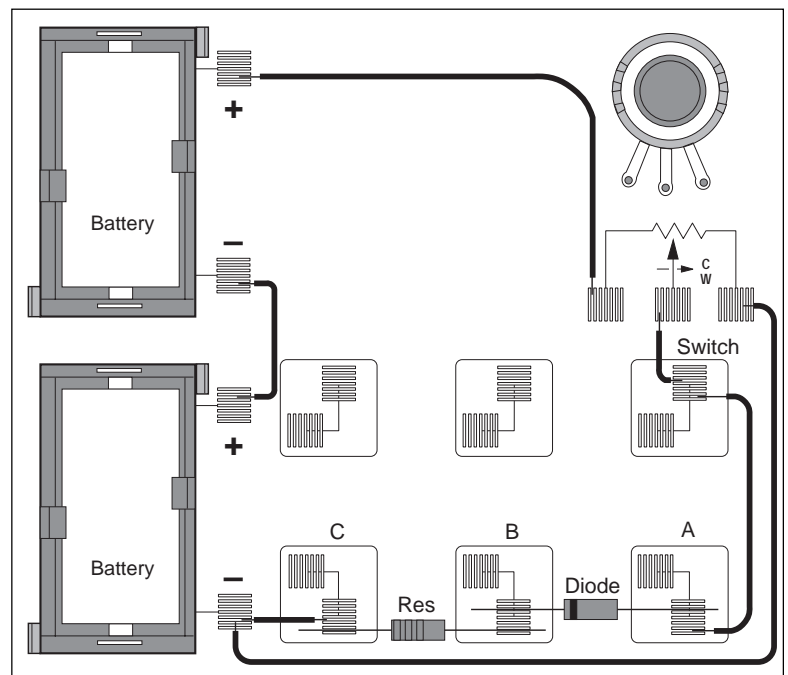
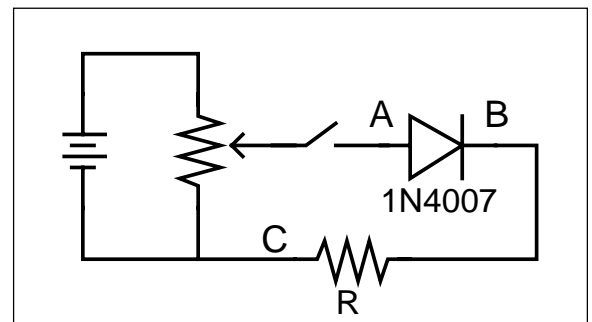

Figure 9.1a
Figure 9.1b
1. Connect the circuit shown in Figure 9.1a using the 1N4007 diode you've been supplied and the 1 K Ω resistor. Use Figure 9.1b as a reference along with Figure 9.1a as you record your data. Note the direction that the diode is oriented, with the dark band closer to point **B**.